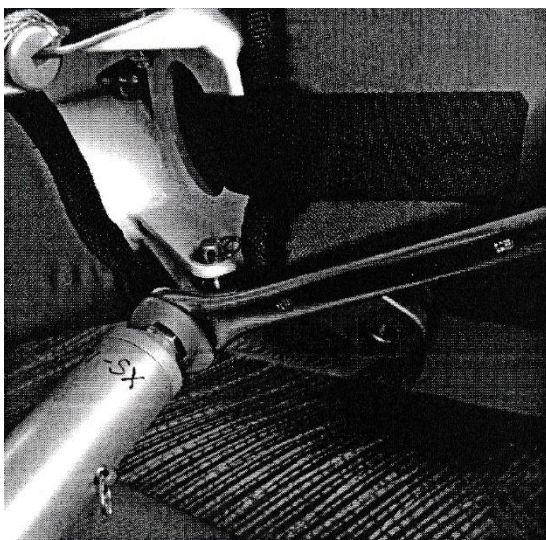

Figure 67
10. Secure main sprogs from rotation with a nut outside the main sprog threaded adjusters (fig. 67). Remove main sprogs from the sprog threaded adjusters. Detach the main sprog wires from the main sprogs. Take the sprogs out of the sail.